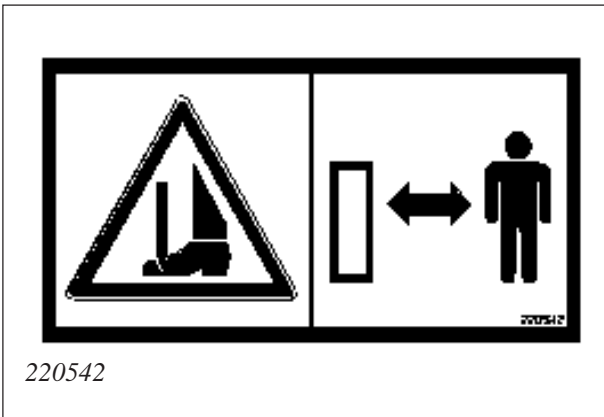

Fig. 20
**Warning sign 220542 (Fig. 20).** Be careful when machine is lowered! Keep feet away from shares and wheels.